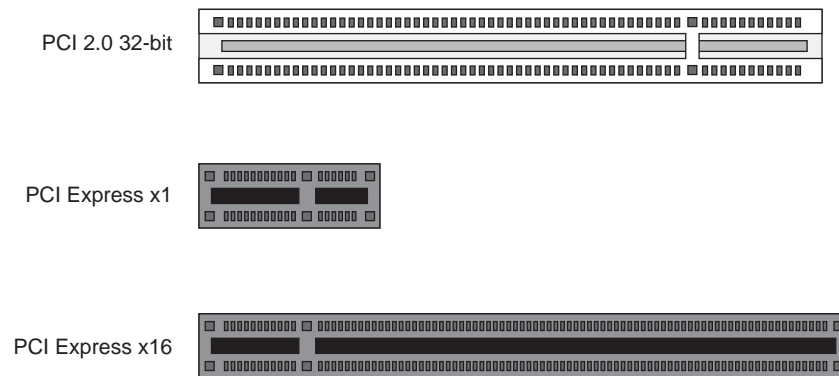

Figure 6-16 Comparison of PCI/PCI-X Connector with PCI Express Connectors
- PCIe hardware connectors are not compatible with PCI/PCI-X (see Figure 6-16)